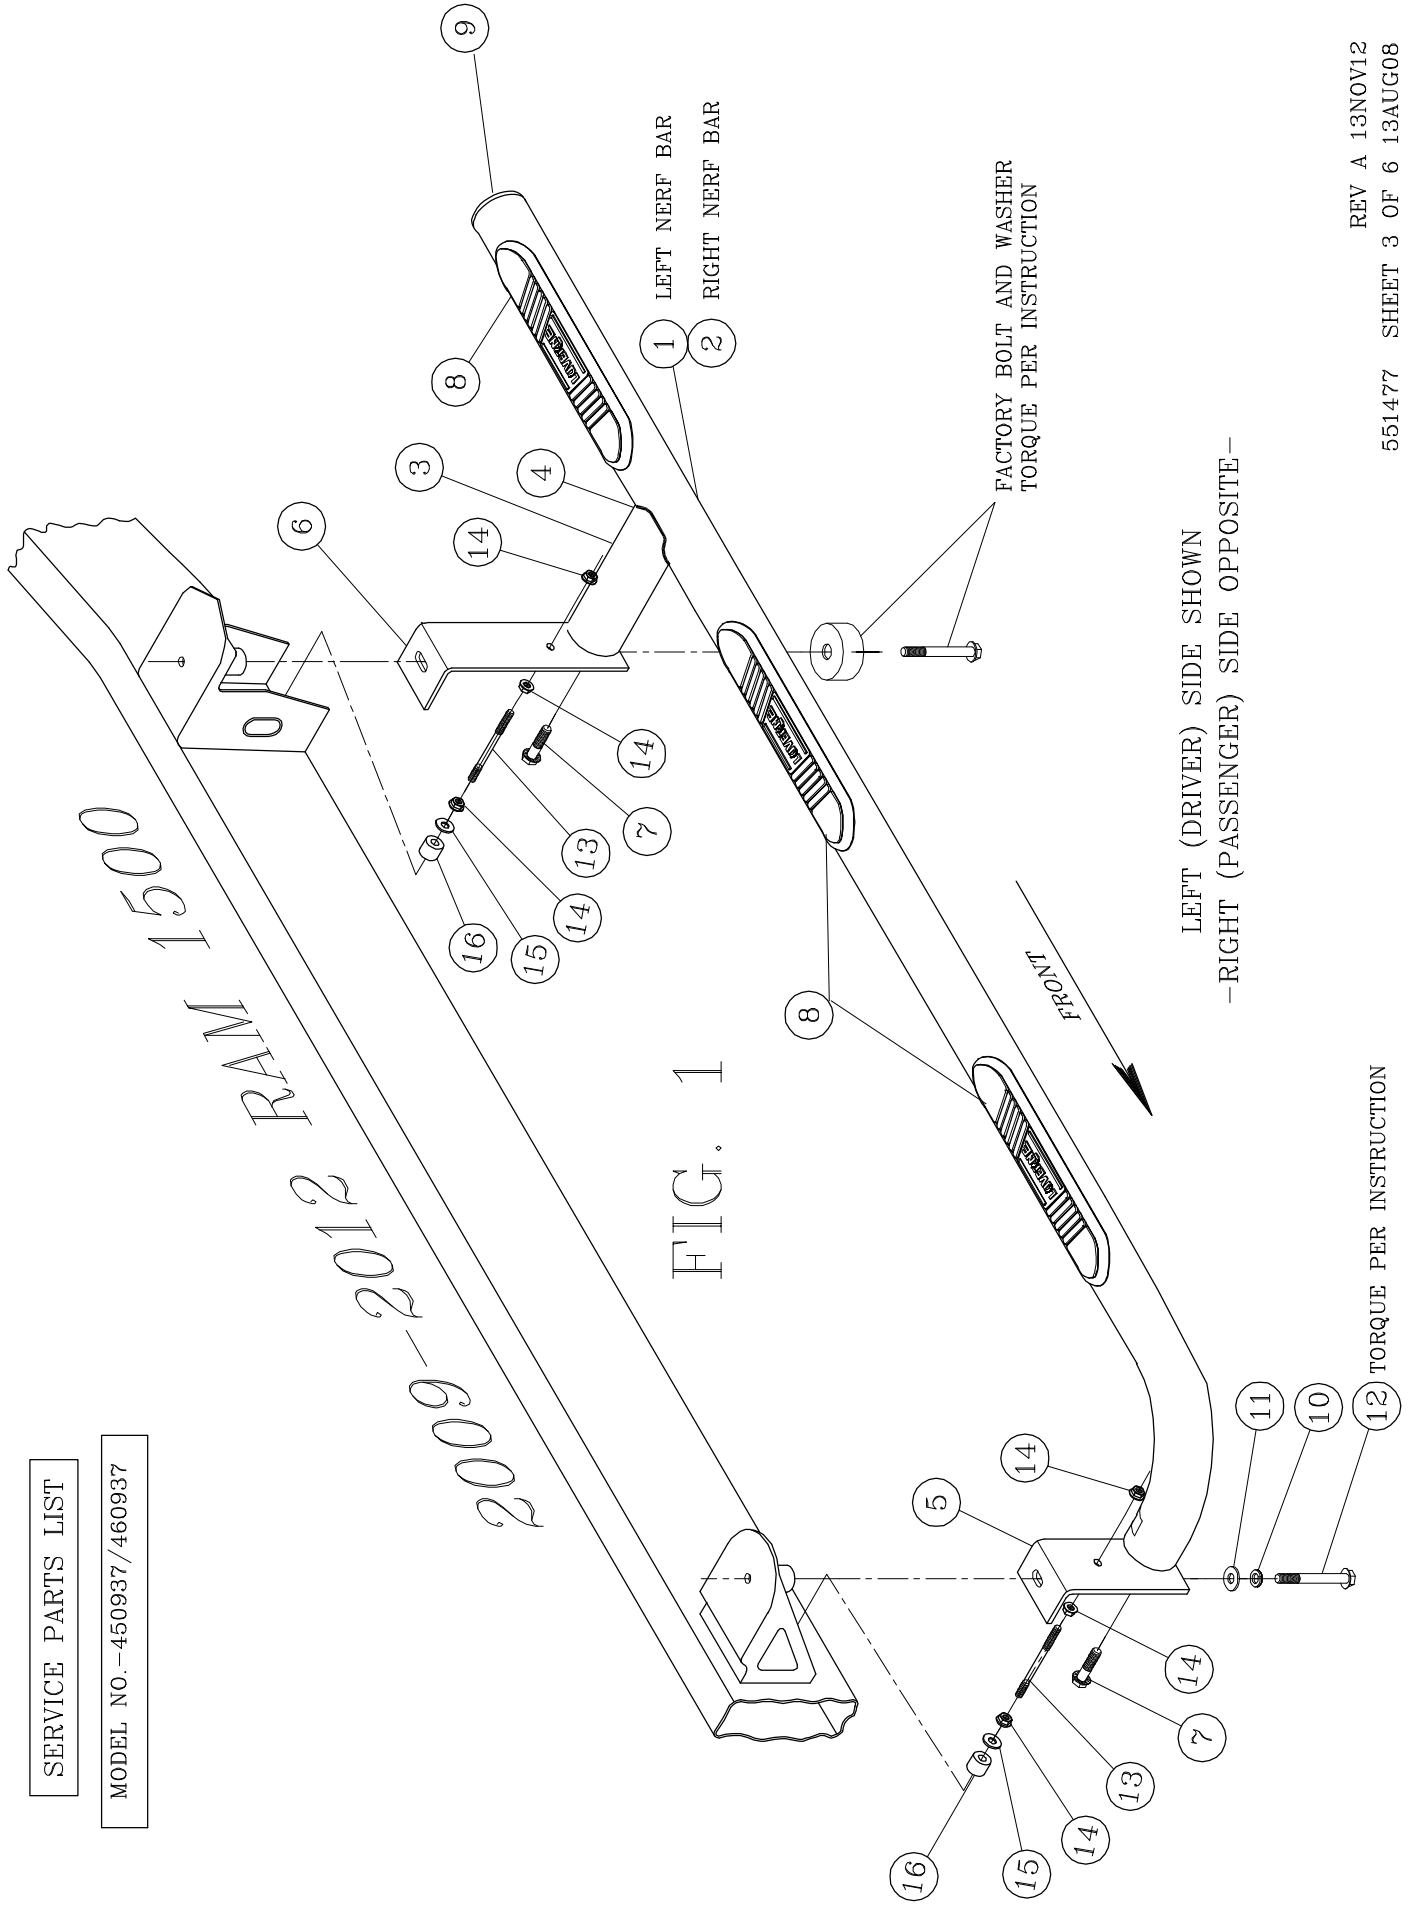

FIG. 1
- 5.2. **2009 TO 2012-** ON THE REAR BODY MOUNT INSTALL THE FACTORY BOLT AND WASHER THRU THE HOLE IN THE NERF BAR MOUNTING BRACKET AND BODY MOUNT BUSHING AS SHOWN IN **FIG. 1 OR 2.**